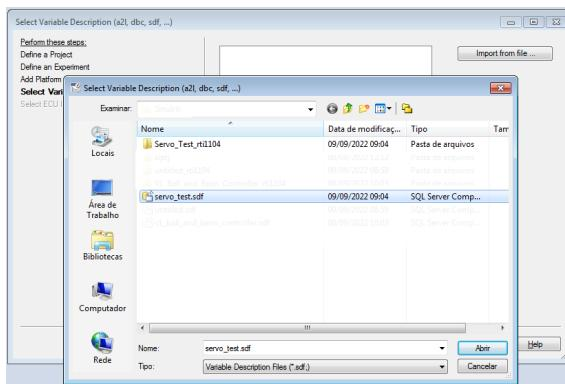

Figure 47: Select variable description
5. To associate the variables from the Simulink model with ControlDesk, the **.sdf** file generated during the compilation of the code done previously must be imported by pressing the button 'Import from file...', and selecting it, as seen in figure 47. After this is done, press 'Finish'.